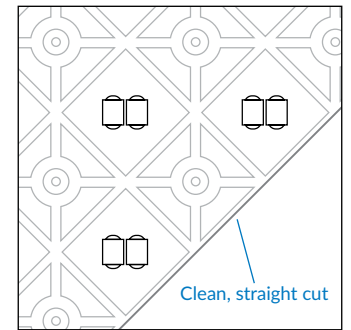

Figure 2
- Make clean, straight, and precise cuts (figure 2).